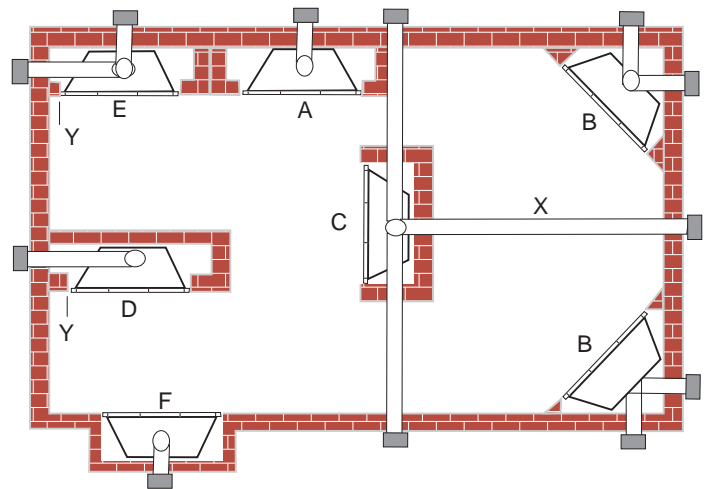

Figure 3 - Fireplace Locations
- This fireplace may be installed along a wall, across a corner, or use an exterior chase. Refer to *Figure 3* for suggested locations.